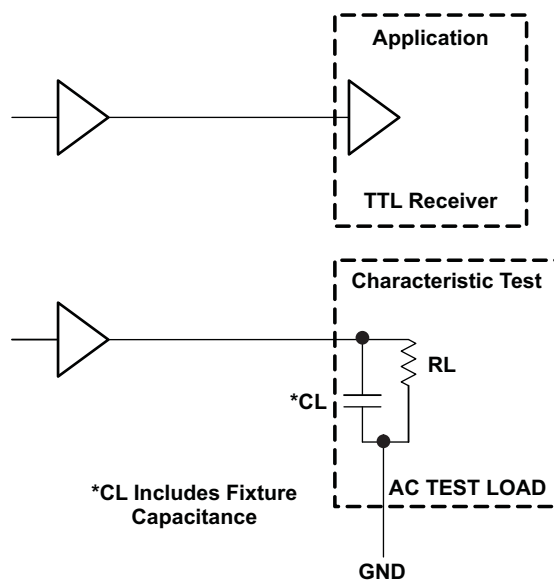

Figure 4. TTL Output Loading Used for Device Evaluation
- (1) Device will meet the specifications after thermal equilibrium has been established when mounted in a test socket or printed circuit board with maintained transverse airflow greater than 500 lfm. Electrical parameters are assured only over the declared operating temperature range. Functional operation of the device exceeding these conditions is not implied. Device specification limit values are applied individually under normal operating conditions and not valid simultaneously.
- (2) Input parameters vary 1:1 with  $V_{CC}$ .  $V_{CC}$  can vary  $\pm 0.3\text{ V}$ .
- (3) TTL output  $R_L = 500\ \Omega$  to GND and  $C_L = 20\text{ pF}$  to GND see Figure 4.
- (4)  $F_{max}$  assures for functionality only;  $V_{OL}$  and  $V_{OH}$  levels are assured at DC only
- (5) Skews are measured between outputs under identical conditions.
- (6) Measured with  $V_{ID} = 1.5\text{ V}_{PP}$  at  $V_{CM} = 2.0\text{ V}$  and  $1.2\text{ V}$
- (7) 200 mV input assured full logic swing at the output.